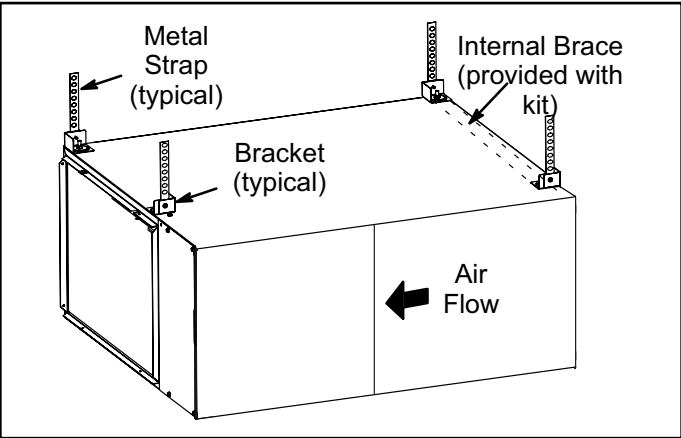
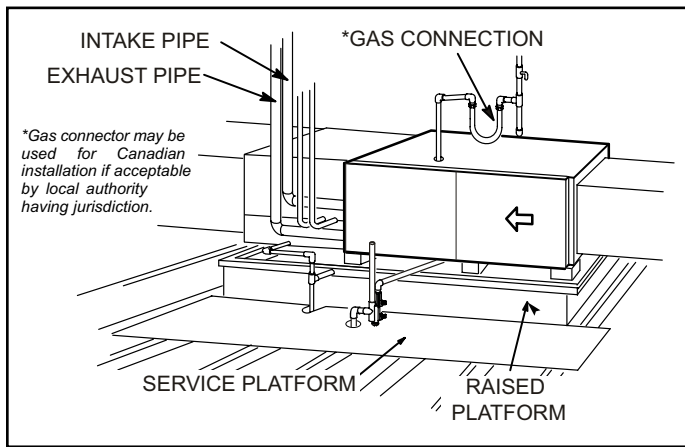

Figure 12. Horizontal Suspension Kit
Figure 13. Platform Installation
This furnace may be installed in either an attic or a crawlspace. Either suspend the furnace from roof rafters or floor joists, as shown in Figure 12, or install the furnace on a platform, as shown in Figure 13. A horizontal suspension kit (51W10) may be ordered from the distributor or use equivalent.
- 14. Construct a raised wooden frame and cover frame with a plywood sheet. If unit is installed above finished space, install an auxiliary drain pan under unit. Set unit in drain pan as shown in Figure 13. Leave 8 inches for service clearance below unit for condensate trap.